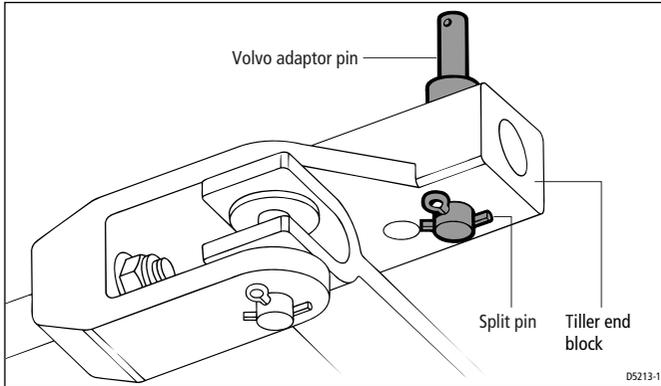

Figure 14: Fitting the Volvo adaptor pin
2. Replace it with the Volvo adaptor pin, using one of the split pins to hold it in place (see *Figure 14*).